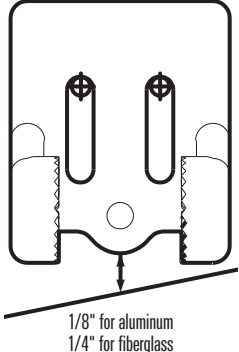

Figure 14
- Make sure that the lower screw hole protrusion does not protrude past the bottom of the hull, and there is at least 1/4" (6 mm) clearance between the bottom of the bracket and the bottom of the transom for fiberglass boats, and 1/8" (3 mm) clearance for aluminum boats (Figure 14).